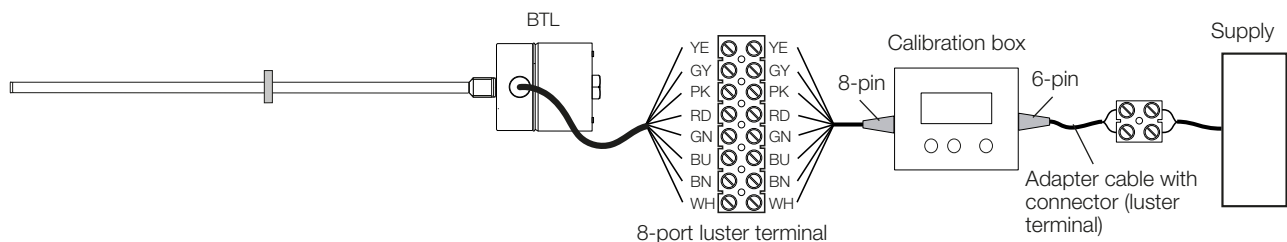

Fig. 6-1: Connecting the BTL7-A-CB02-K calibration box
1) Recommended wire color when using the calibration box (see Fig. 6-1 on page 17)